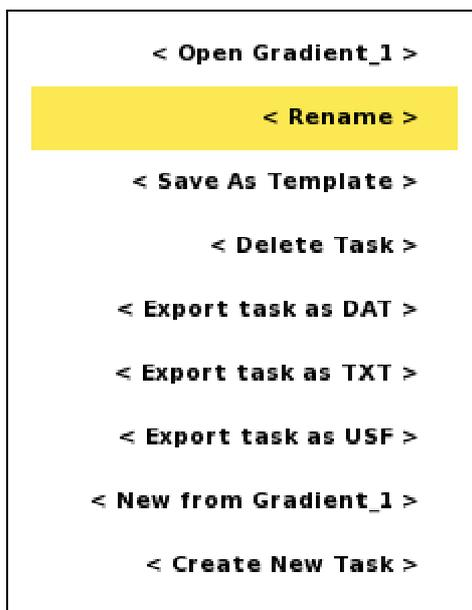

Figure 25 *Task Option menu with the Rename item highlighted*
- Move the highlight to <Rename> (Figure 25)